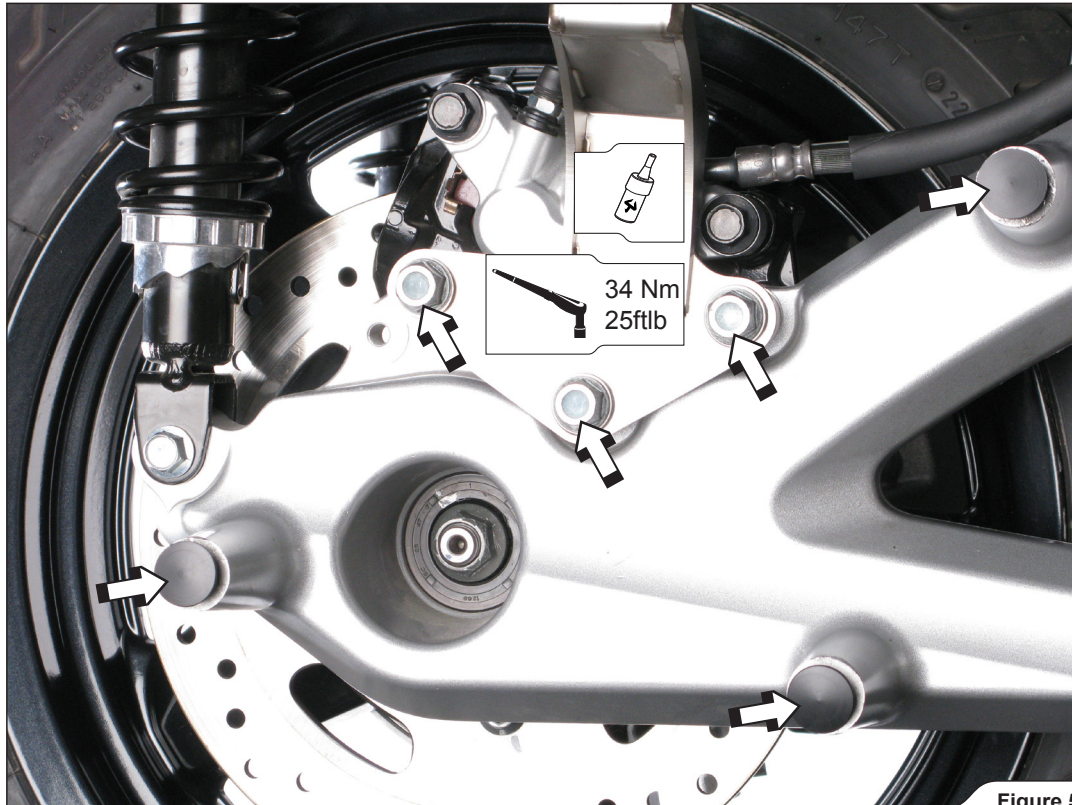

Figure 5
- For X-MAX 250 / 250 ABS / 125 ABS / X-CITY 250 only: install the bracket onto the brake caliper as shown (use bolts and washers from Akrapovič installation kit). Insert the Akrapovič PVC plugs into the stock muffler's mounting holes, use rubber mallet to tap the plugs into place (Figure 5).